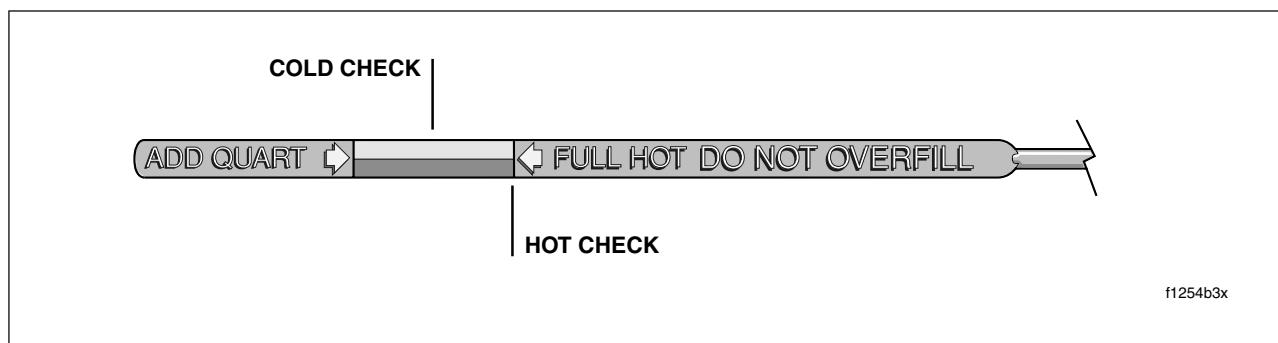

Figure 3-1. Engine Oil Dipstick
- b. Remove the dipstick and note the level of the oil. Oil level should register between the two arrows on the dipstick. See Figure 3-1. If oil level is at or below the lower arrow, add only enough oil to bring the level between the two arrows on the dipstick.
- d. Remove the dipstick and note the level of the oil. Add only enough oil to bring the level to the FULL mark on the dipstick. See Figure 3-1. Do not overfill.
- d. Remove the dipstick and note the level of the oil. Add only enough oil to bring the level to the **FULL** mark on the dipstick. See Figure 3-1. Do not overfill.